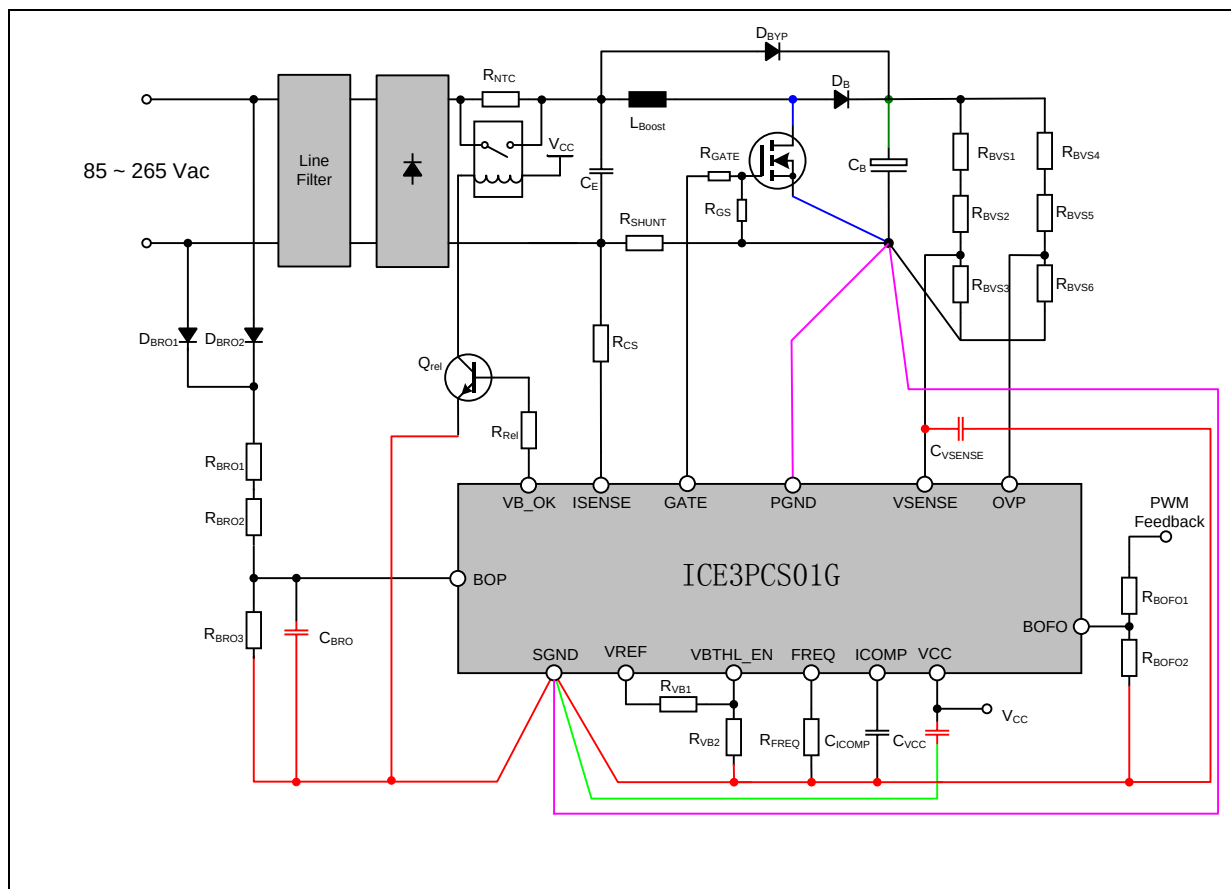

Figure 21 Good PCB layout illustration
In order to avoid crosstalk on the board between power and signal path, and to keep the IC GND pin as “clean” from noise as possible, the PCB layout for GND must be taken care of properly. Below are some suggestions for GND connections and together with Figure 21 below illustrates as a good example.
- (1) Star connection rules for main power stage GND: the PCB tracks of MOSFET source, output load PGND, SGND, IC auxiliary supply GND and shunt resistor are separated and connected together at bulk capacitor negative Pin.
- (2) Star connection rules for SGND: the IC external components which need to be connected to the SGND bus highlighted in red color. Such SGND bus is connected to IC SGND pin.
- (3) Connection between main power stage GND and IC GND: in Figure 21, the single PCB track in pink color directly connects IC GND pins to power stage star connection point - bulk capacitor negative. This is to ensure that the voltage between ISENSE pin and SGND pin does not observe the switching rectangular noise current. The dark green and blue tracks denote for flowing paths of high frequency rectangular switching current.
- (4) VCC decoupling capacitor C_{VCC} : the decoupling capacitor need to be placed close to IC VCC and GND pins as much as possible. The GND track of C_{VCC} (green color in Figure 21) should be connected at the point on the single PCB track connecting between IC SGND pin and PGND point so that the large gate charging current will not pass through the SGND bus.
- (5) VSENSE capacitor C_{VSENSE} : to reduce noise in VSENSE pin, small capacitor up to 0.01uF can be added between VSENSE pin and SGND bus.